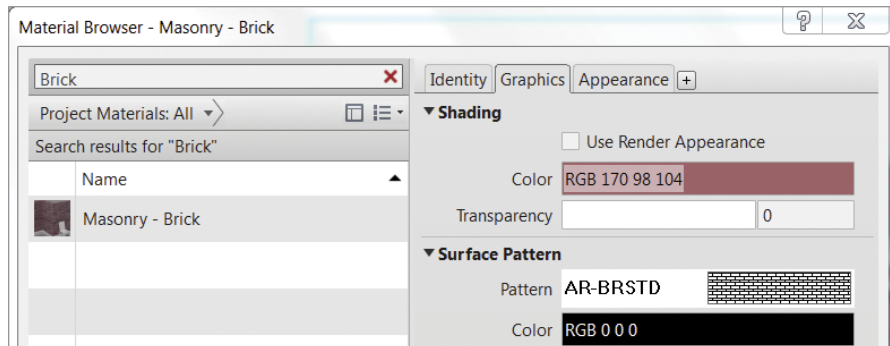

FIGURE 9.1 Search results for Brick and the Graphics tab
3. Click the **Masonry - Brick** material and notice that the properties on the right update, as in Figure 9.1. You're looking at the Graphics tab of the material's properties. You can choose a unique color for the brick by clicking the **Color** button under the **Shading** header. You can also redefine the surface pattern. The brick pattern looks good, so leave it as is.